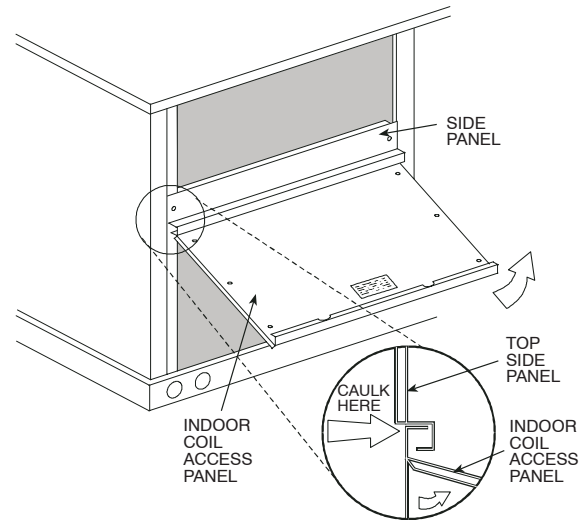

Fig. 31 – Indoor Coil Access Panel Relocation
3. The indoor coil access panel will be used as the top of the hood. Remove the screws along the sides and bottom of the indoor coil access panel. (See Fig. 31.)
8. Caulk the ends of the joint between the unit top panel and the hood top. (See Fig. 31.)